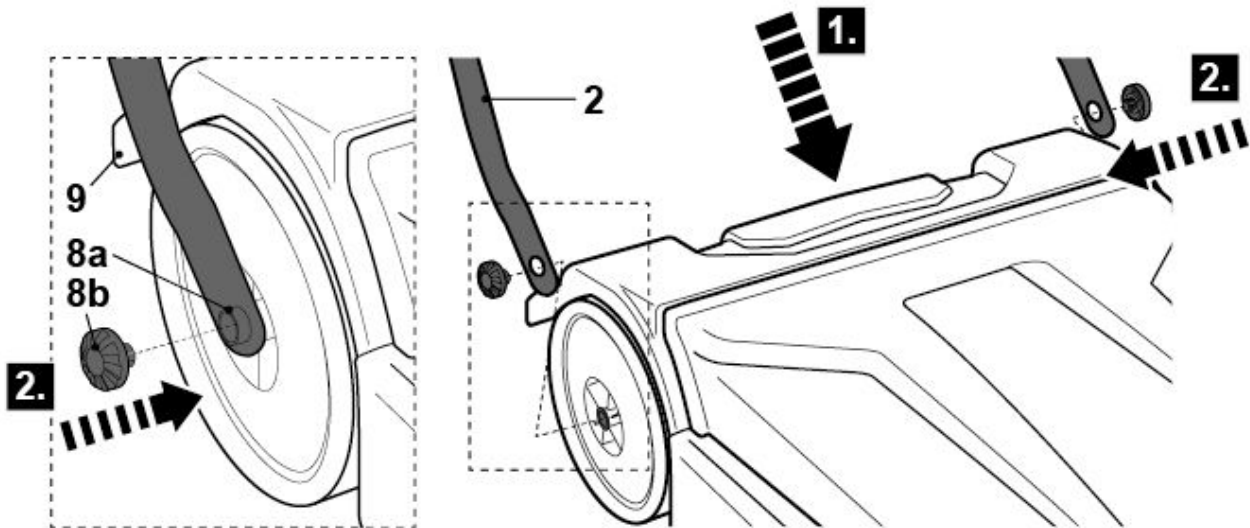

Fig. 2
hook holes on the ends of the bottom bar of the handle [2] [8] (figure 2, step 1).
attach the caps (8b) to the axle (8) and push them to the end (figure 2, step 2).